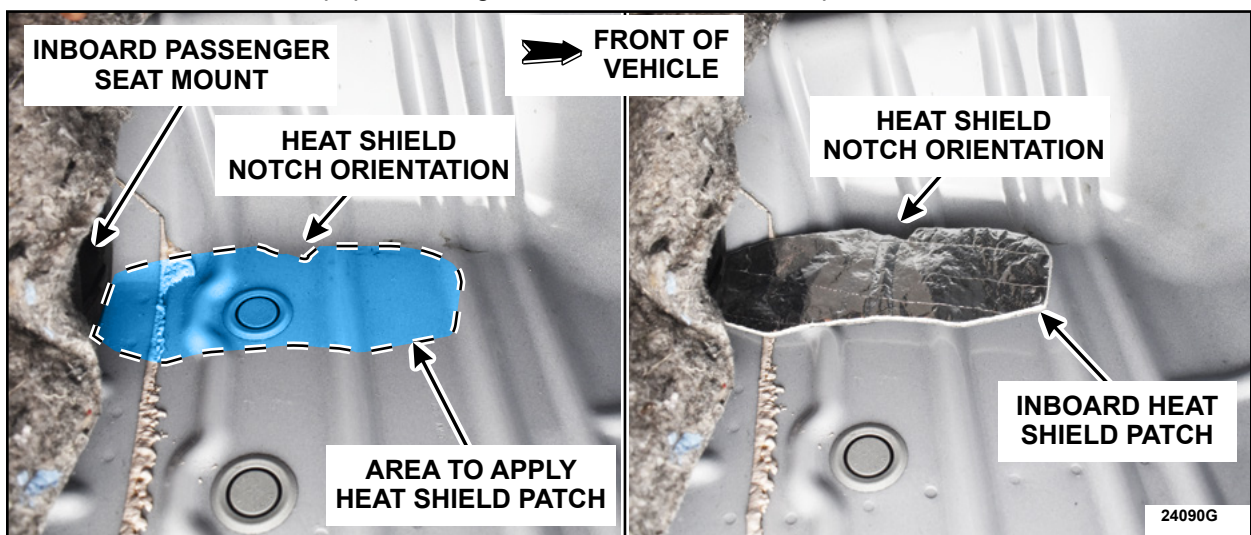

FIGURE 7
7. Install the inboard heat shield patch. See Figure 7.